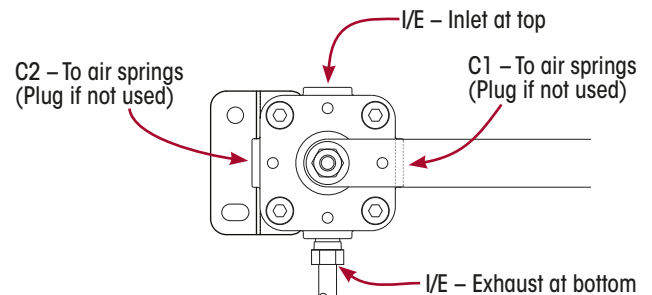
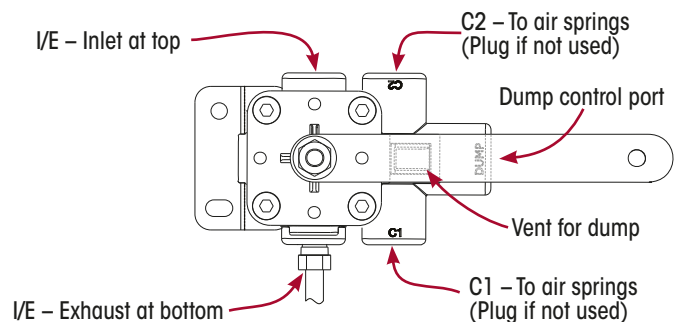

Figure 177: HCV Port Description – Without Dump
Figure 178: HCV Dump Valve Port Description
3. Install fittings into HCV ports. Use a drop of oil or thread sealant to lubricate the threaded connections. Fit blanking plug to the unused ports if both are not used. The fitting for air supply will always be at the top of the valve for either orientation. Install exhaust fitting and PVC hose to lower HCV port. If being operated in adverse or harsh conditions, fit a longer tube and loop it to prevent ingress of dirt, dust or mud. Refer to the relevant parts list for the suspension being serviced. Refer to Figure 177 and Figure 178.